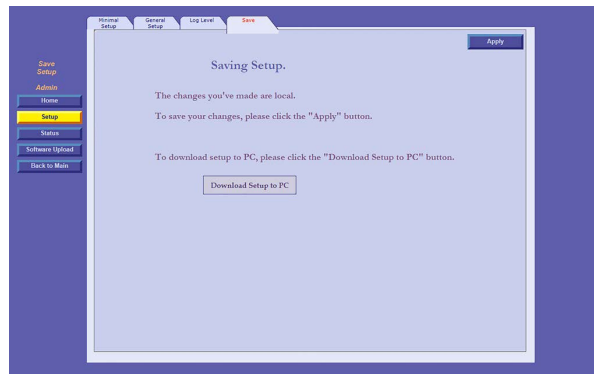

Figure 5-8 - Save Tab
1. Click on the **Save** tab. The following screen appears (see Figure 5-8):